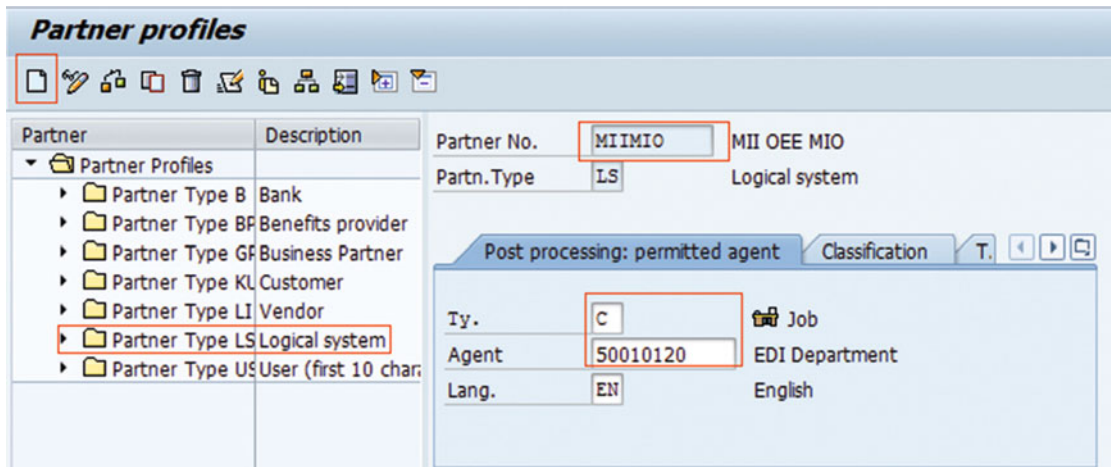

Figure 3-66. Create partner profile
2. On the Partner profile screen, create a new profile for partner type LS (refer to Figure 3-66).